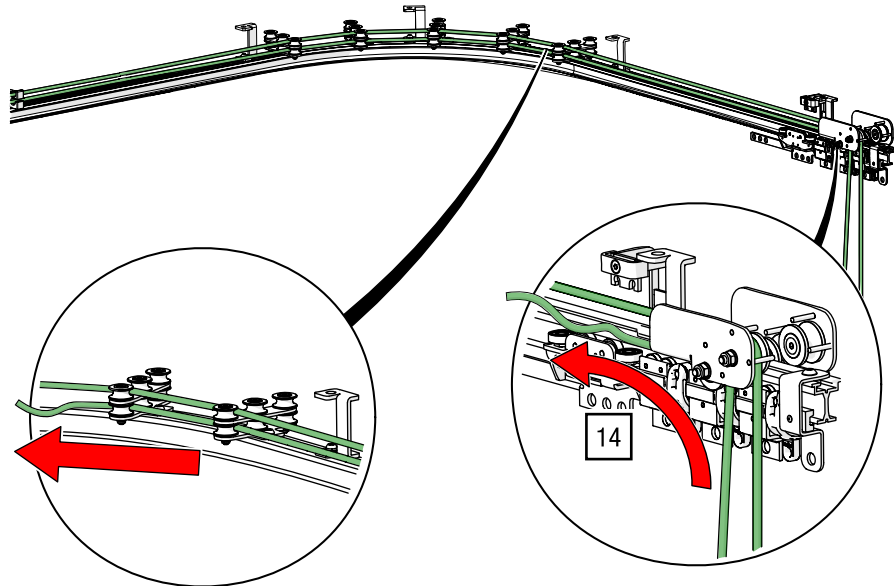

Fig. 112: Double top cord operation – Guide the second end of the cord through the head pulley and guides
14. Pass the cord on the left-hand side through the head pulley upwards through the cord operations (see Fig. 112).